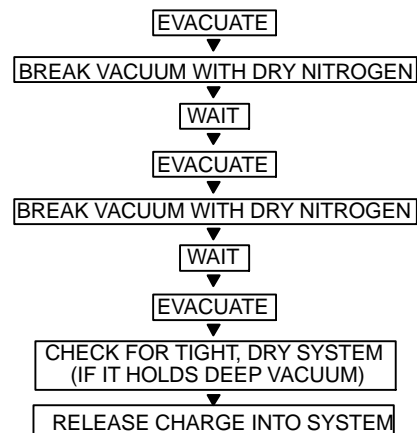

Fig. 10 – Triple Evacuation Method
The triple evacuation method should be used. Refer to Fig. 10 and proceed as follows:
- 5 Repeat this procedure as indicated in Fig. 10. System will then be free of any contaminants and water vapor.